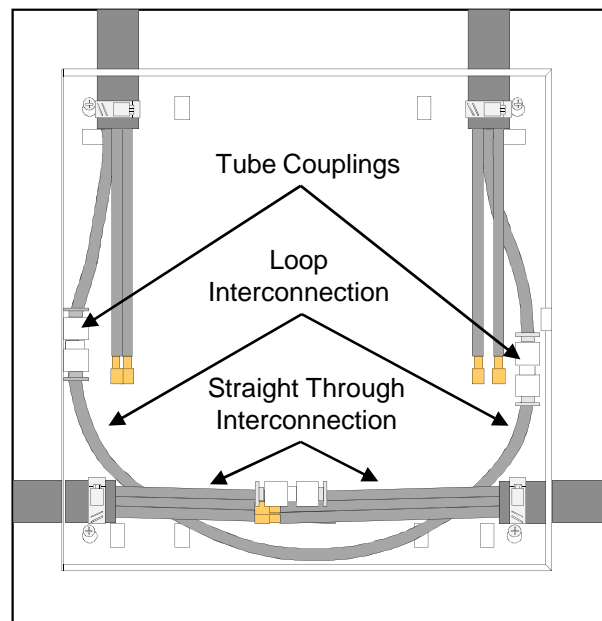

Figure 7
9.4.2 Use Tubing Cutter (BETC001) to cut tube ends at mark and install Tube Coupling. Be sure each tube is pushed all the way into its coupling and fully and firmly seated. **See Fig. 7.**
9.6.1 **Important Point.** If two tubes must be connected in a loop interconnection, do not couple them with one Tube Coupling. Locating Tube Couplings in bends / curves can cause the front end of a fiber bundle to hang up in the coupling during blowing operations. Always install Tube Couplings in straight sections of tubing. **Refer to Fig. 7.**